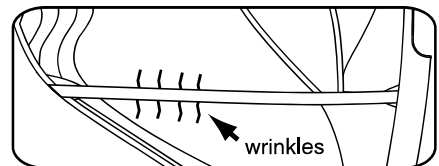

*Fig. 7: Outhaul sail to the end of the boom*
- d) Finally, outhaul your sail to the end of the boom (fig. 7).